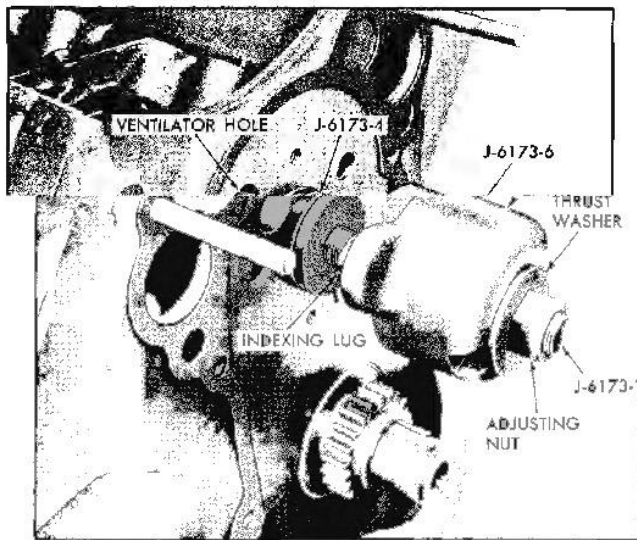

Fig. 6-121 Positioning Index Collar
1. Insert remover adapter J-6173-4 into front bearing to act as a support for shaft J-6173-1 (Fig. 6-121).
3. Place indexing collar J-6173-6 on threaded end of shaft with open side toward unthreaded end and start thrust washer and nut on shaft (Fig. 6-121).
4. Insert shaft and indexing collar through remover and replacer adapters and position lug and indexing collar in ventilator hole in front of block (Fig. 6-121). This indexes the shaft so that it cannot rotate.
6. Insert shaft with indexing collar, thrust washer, and nut through remover, pilot and replacer adapters and index lug on collar with ventilation hole in front of block (Fig. 6-121).